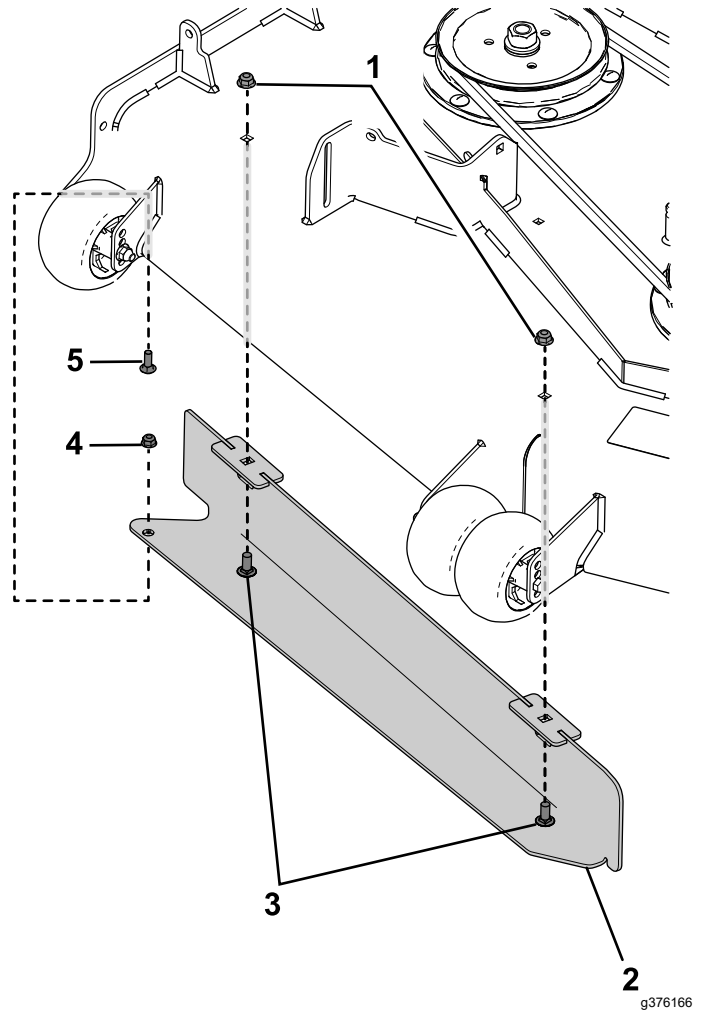
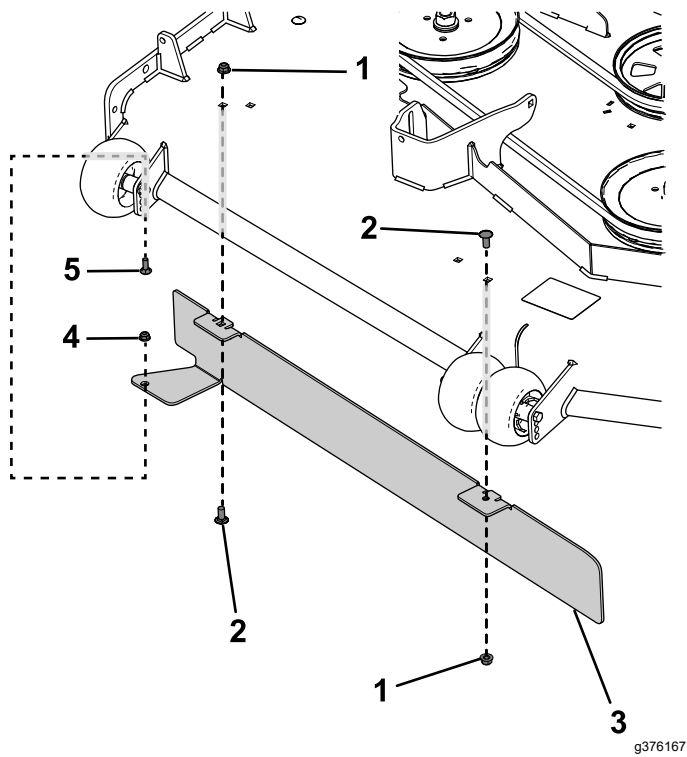

Figure 28
Figure 29
2. Install the baffle using the carriage bolt (5/16 x 7/8 inch), flange nut (5/16 inch), 2 carriage bolts (3/8 x 7/8 inch), and 2 flange nuts (3/8 inch) as shown in Figure 28 and Figure 29.